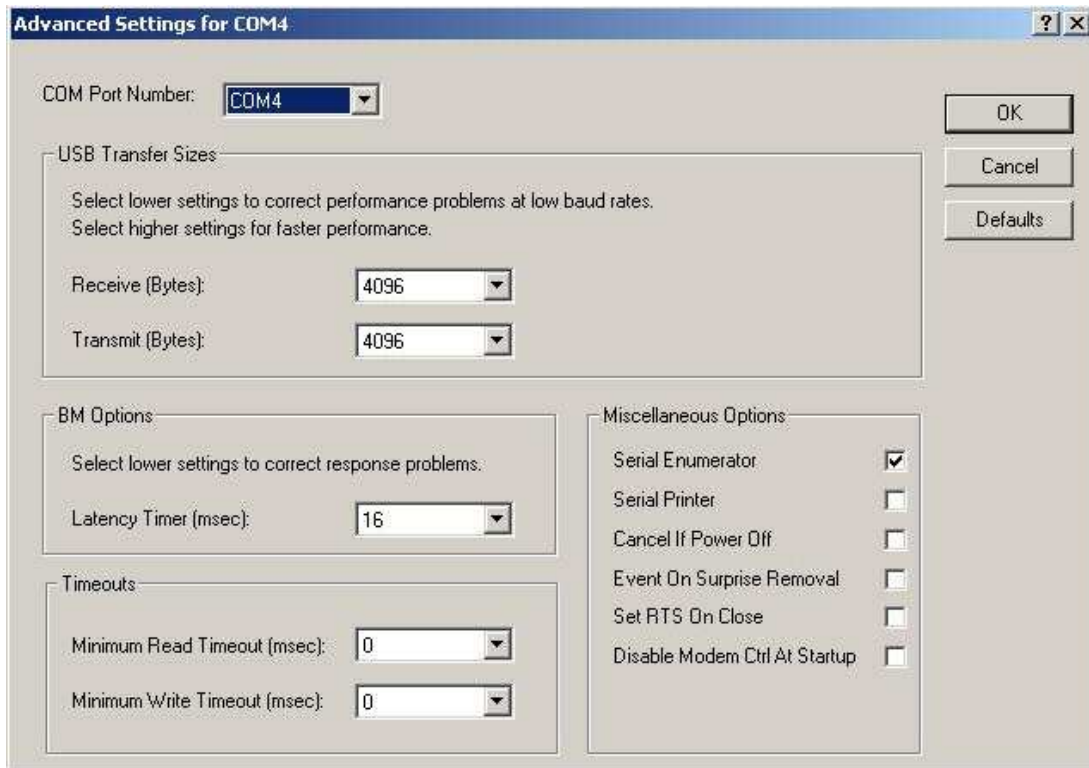

Figure 27: Serial Port Properties, Advanced
5. Find and click on the Advanced button to obtain the Advanced Serial Port Properties screen of figure 27.
6. In figure 27, the COM Port selection is highlighted. Click on the arrow to show a selection of COM ports. Use the up and down arrow to scroll through all the COM ports. If you wish to force the hardware to use a different COM port, you may select that port number here.